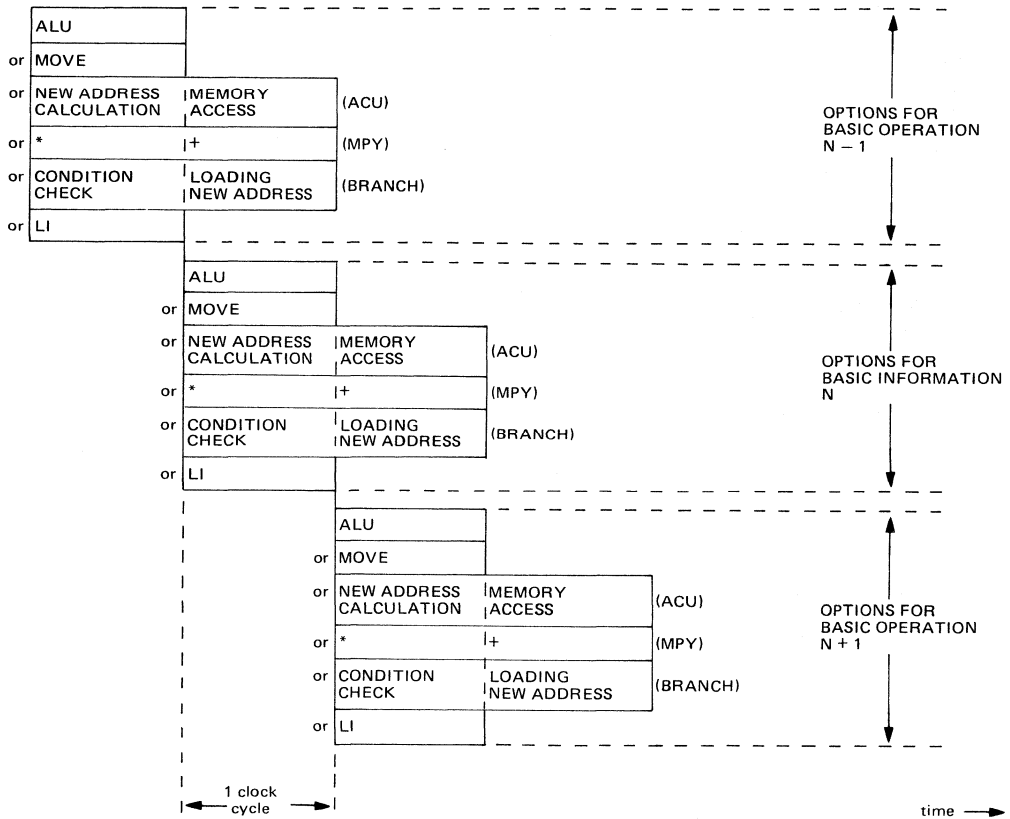
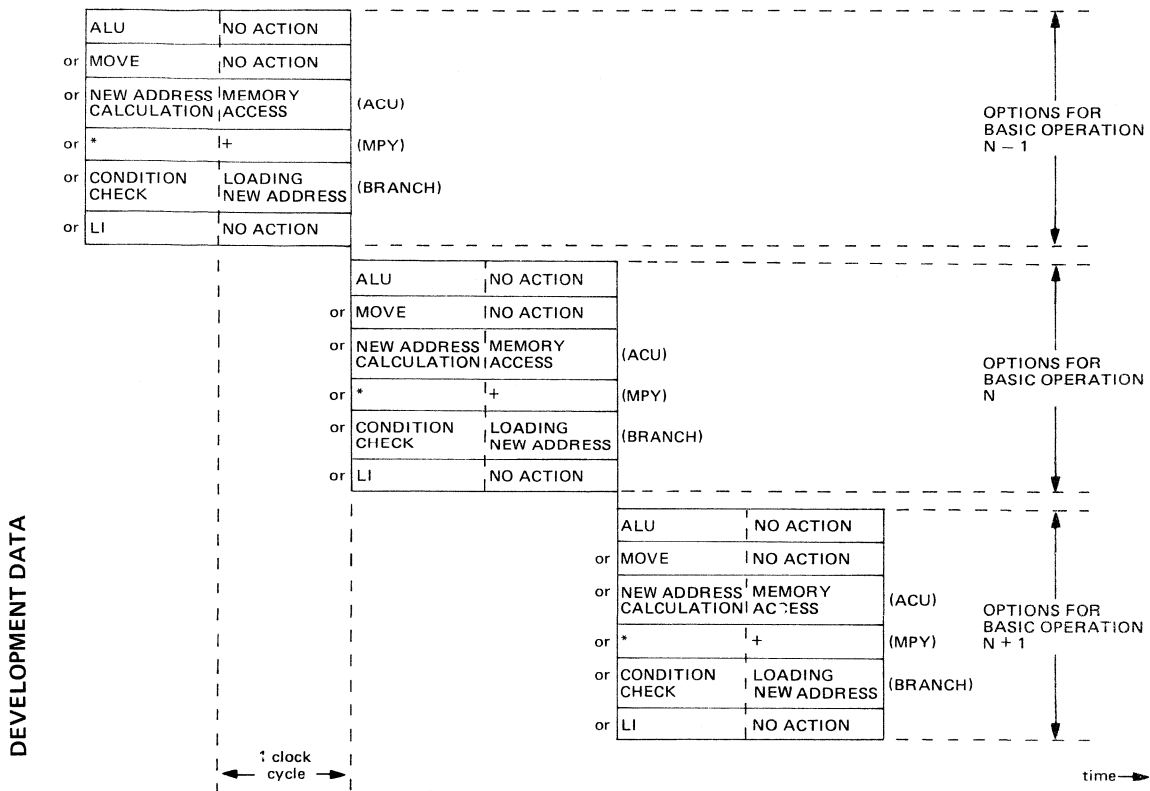

Fig. 3.1-1 Basic operation sequencing in P-mode.
Fig. 3.1-2 Basic operation sequencing in NP-mode.
Basic operation sequencing is shown in Fig. 3.1-1 for the P-mode, and Fig. 3.1-2 for the NP-mode. There are 6 different basic operations which are described below.
**Notes to Fig. 3.1-1**
Notes to Fig. 3.1-2